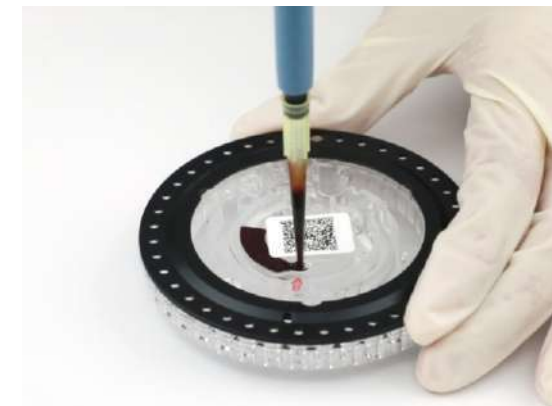

Figure 5-1
1. Use a 100 µl standard pipette and a disposable tip to inject the sample into the only conical sample hole on the reagent rotor. As shown in Figure 5-1.